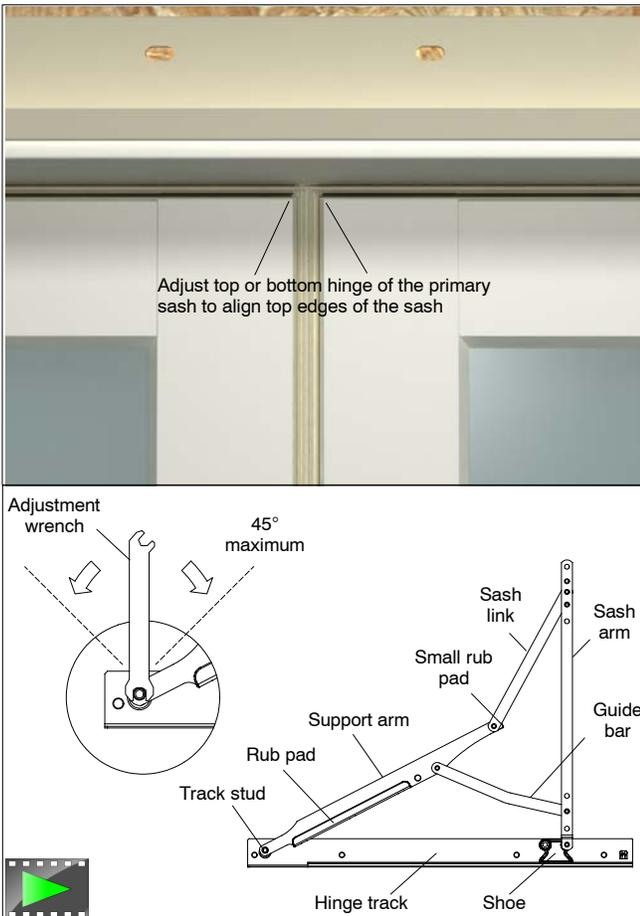

Figure 9: Aligning top edge of sash
- Use the supplied hinge adjustment wrench to align the top of the primary sash with the secondary sash. See figure 9.